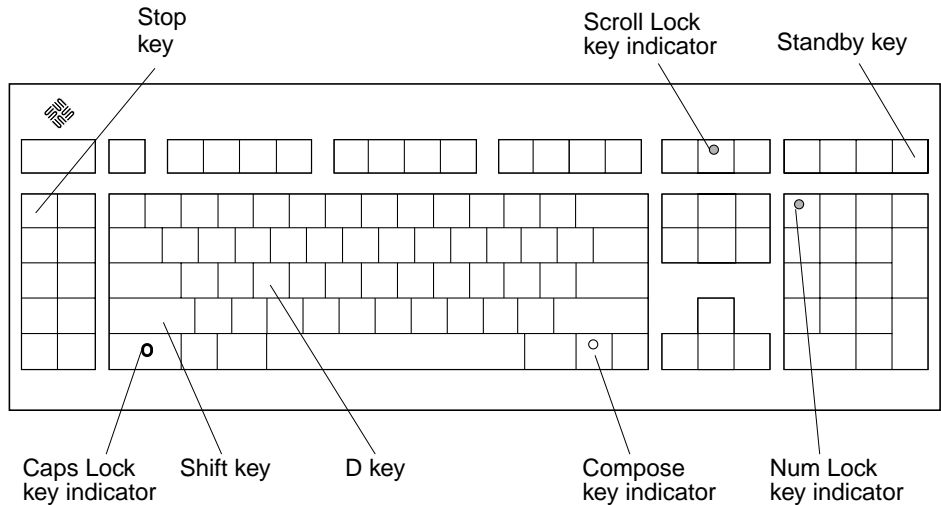
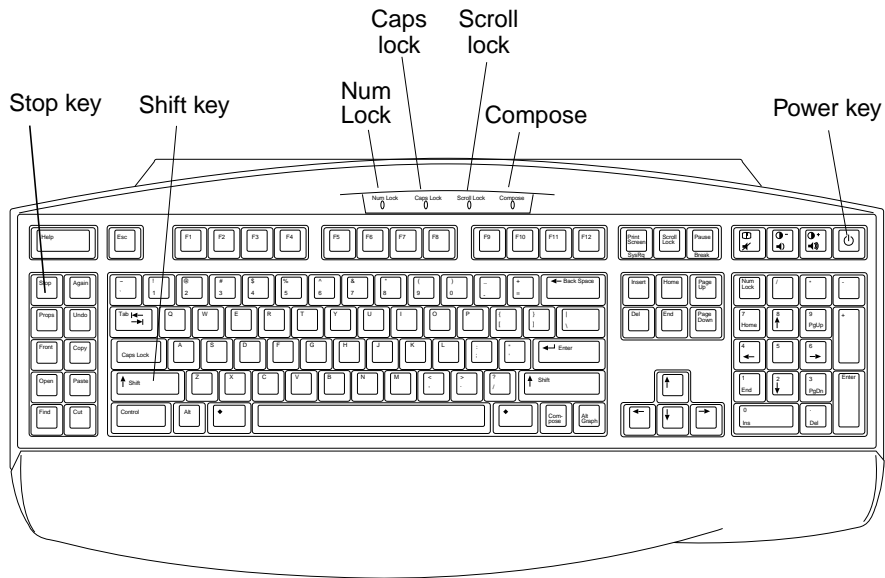

FIGURE 3-2 Sun Type-5 Keyboard
FIGURE 3-3 Sun I/O Type-6 Keyboard
- 2. At the keyboard (Sun Type-5 or Sun I/O Type-6), power-cycle the system by simultaneously pressing the Shift key and the Standby (Power) key. After a few seconds, press the Standby (Power) key again (see FIGURE 3-2 or FIGURE 3-3).**